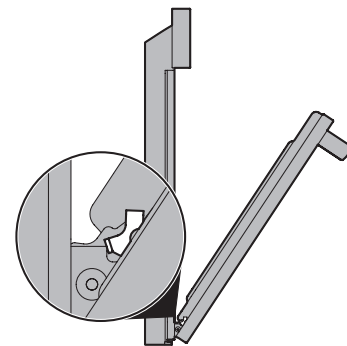

Figure 28: Removal Position
3. Grasp the door by the sides, and close the door until the door frame makes contact with the unlocked hinges (Figure 28)
2. Hold the oven door at the same angle as the removal position (Figure 28). Carefully insert the hinge levers into the oven frame until you feel the hinge levers are seated into the hinge notches. The hinge arms must be fully seated into the hinge notches before the oven door can be fully opened. (Figure 28).